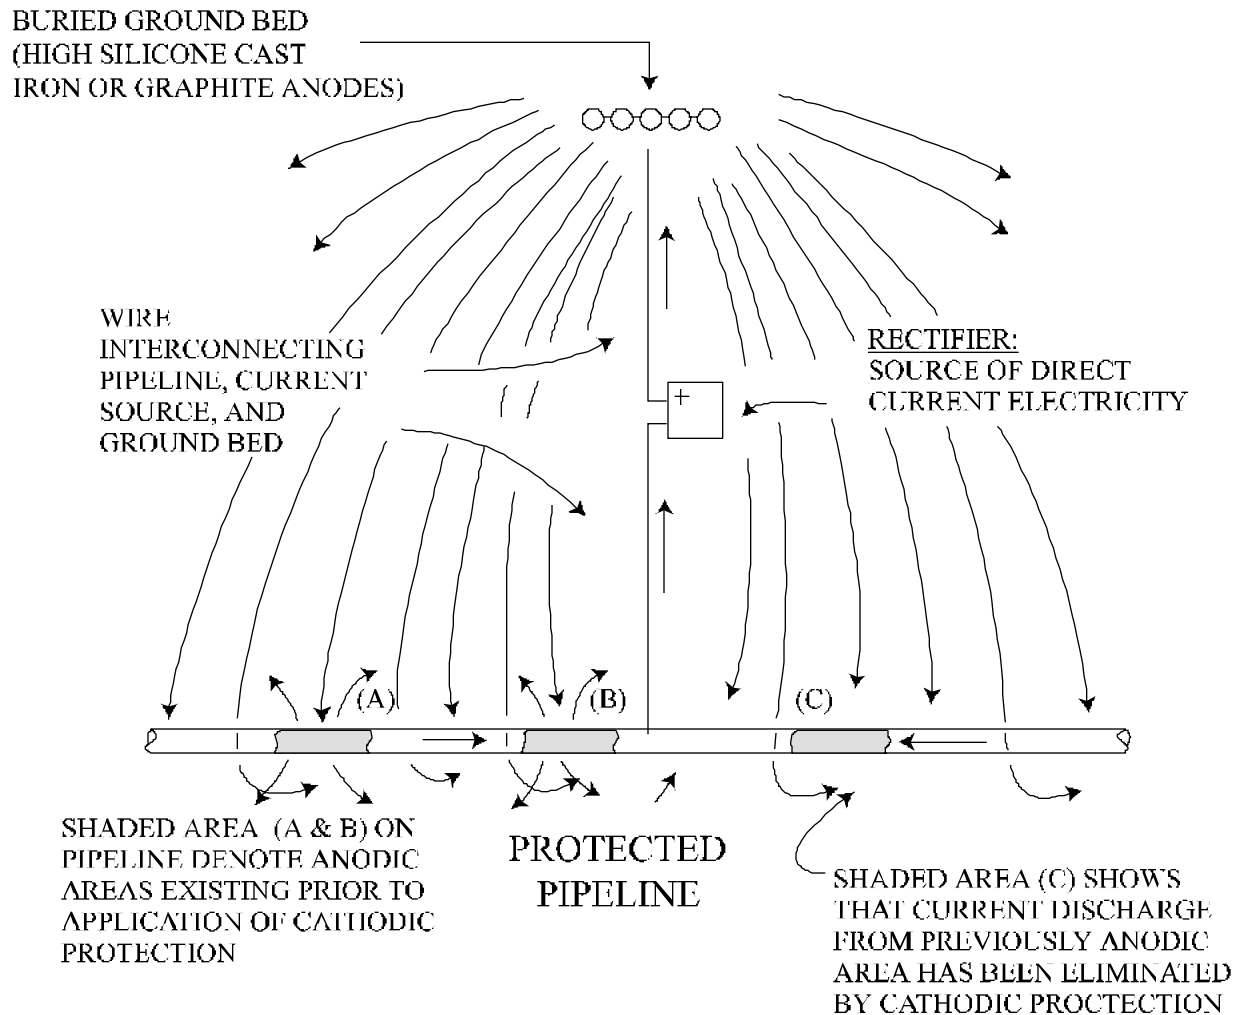

Figure VIII-4
**Rectifier** - An electrical device that changes alternating current (ac) into direct current (dc). This current is then impressed on an underground metallic piping system to protect it against corrosion. (See Figure VIII-4.)